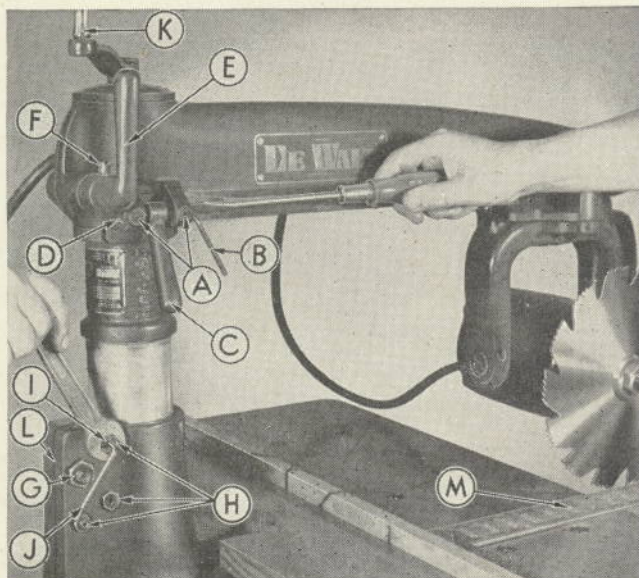

FIGURE 8
Place wide board on table top against guide fence and cut across with set tooth saw blade. Check material for accuracy with steel square. If the saw blade does not cut square . . . this means that the arm is out of alignment with the guide fence. To adjust this condition refer to Figure 8.
If at any time you have some side motion at the end of the arm after the arm clamp handle (E) is tightened . . . this indicates that there is play between the column and base, or gib needs tightening. Refer to Figs. 8 and 10.
1. Loosen base pinch bolt (G) . . . all hex jam nuts (H) . . . and all set screws (I).
2. Rotate elevating crank handle (K) to raise or lower the column. Tighten base pinch bolt (G) so column still raises or lowers freely and without play.
3. Adjusting gib (L) must be secured against column key (2D) to prevent side motion in the arm. Tighten the top set screws (I) with wrench (J) until